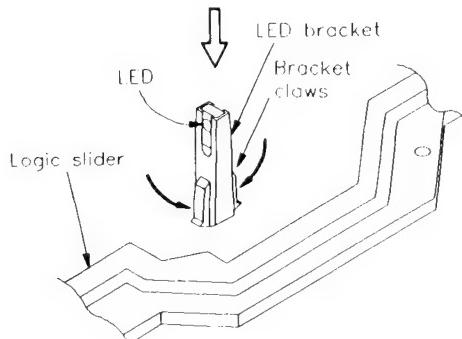

Fig. 4-15-4
- Remove screw (A) and screw (B). (Since the screws are different each other, paying attention when replacing them.)
- Press and bend claws of the LED bracket in direction shown by the black arrows on upper side of the mechanism assembly, and then push them in direction shown by the white arrow so that they can pass the hole (Fig. 4-15-4).
When removing or remounting, take care that the LED is not contaminated by grease or damaged by scratches. (Fig. 4-15-4)